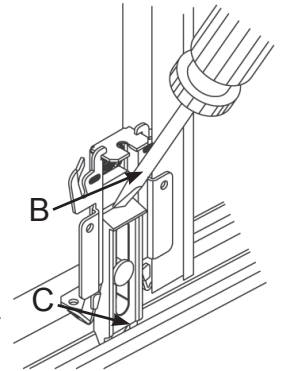

FIGURE 8
After obtaining approximately 1/2" (13) clearance at floor, press nylon button guide down with thumb or screwdriver at (B) until hooks (C) snap into floor track. Guide will ride up and down in channel to compensate for uneven floor level, without disengaging door. Guide can be removed by prying up under nylon flange (Figure 8).